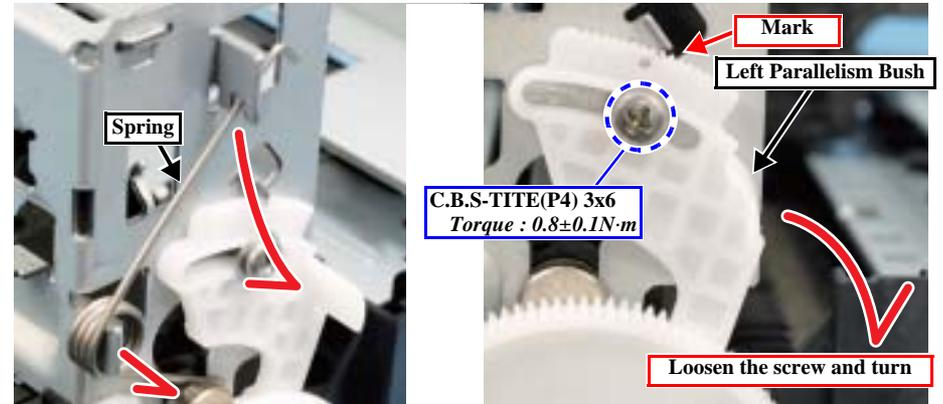

Figure 4-66. Removing the Carriage Assy (at left side)
10. At the left side of the printer, remove the spring, and mark the indicated graduation position of the Parallelism Bush. Then loosen the screw, and turn the Parallelism Bush toward the front. (Fig. 4-66)